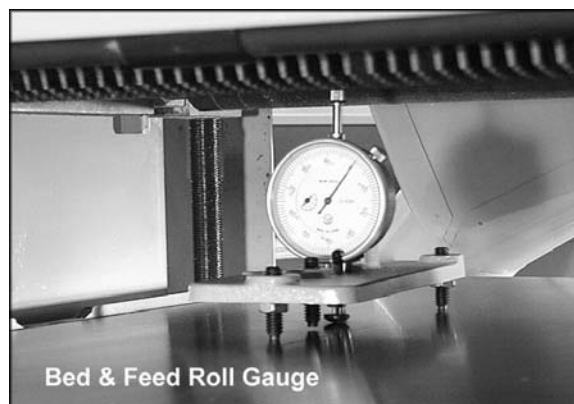

Figure 13
1. Place a bed and feed roll gauge (accessory #2230002), shown in Figure 13, under a planer knife in the cutterhead and raise the table until the gauge contacts the knife at the apex of its curve. Set the gauge to zero.